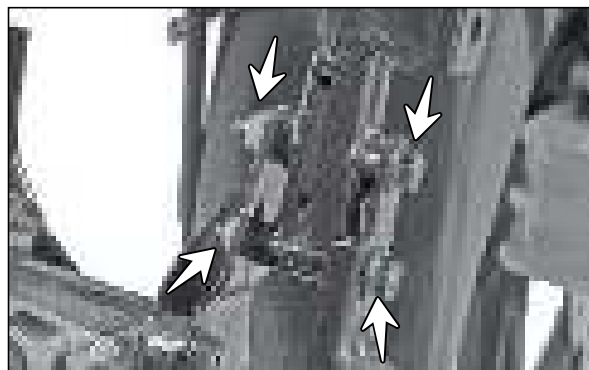

Fig. 3.139
- Remove the hexagonal flange bolt (M8x55 - 2 Nos.) from the mounting of bracket crash guard RH and take out the bracket. (Fig. 3.139)